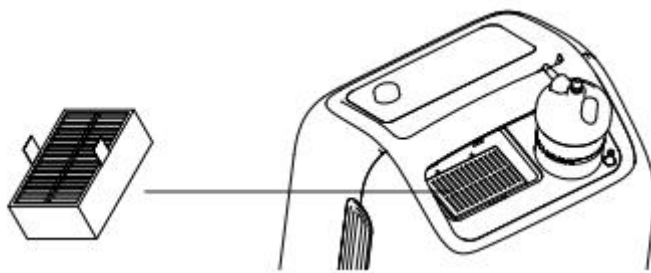

Figure 5
1. Before operating your unit always checks to be sure the air filter (located on the top of your unit, Figure 5) is existed .Proper replace of this filter is discussed in the Caring for Your Concentrator section on page14.